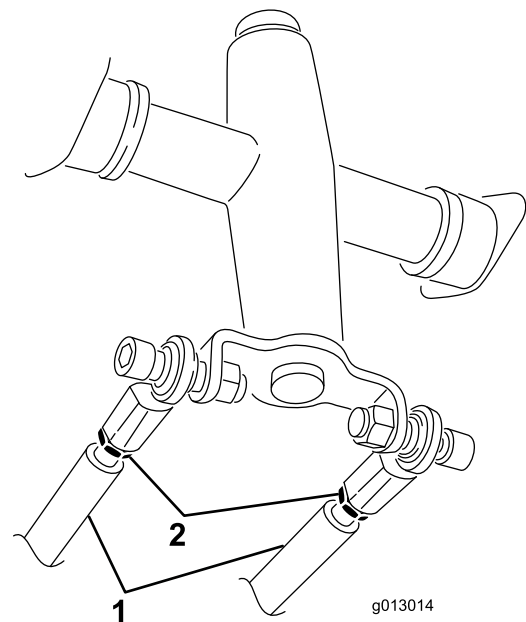

Figure 63
3. Loosen the jam nuts on the traction rods, under the control panel (Figure 63).